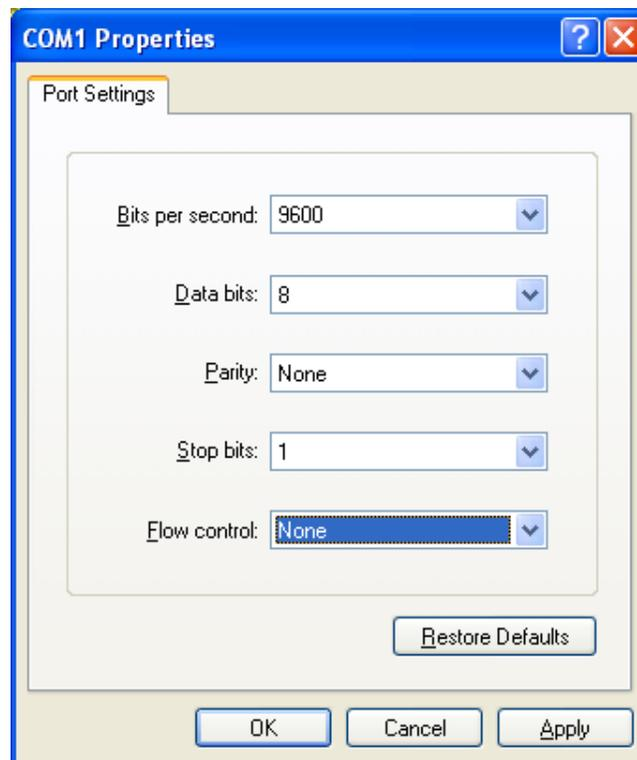

Figure 26 - HyperTerminal COM Port Settings
- 3) In the COM Properties Dialog, enter the “Port Settings”. Select Apply. Select OK (Figure 26).